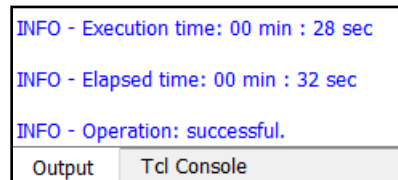

Figure 7.10. Message on Successful Programming
- Check on the output window, where the status of the program device should be *Operation: successful*, as shown in Figure 7.10.